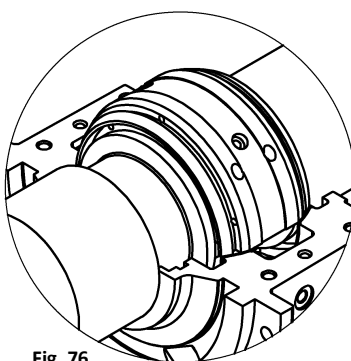
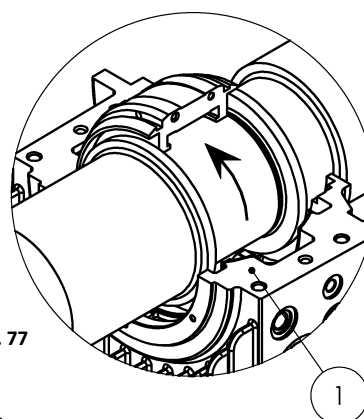

Fig. 76
Fig. 77
- Place the lower part of the bearing shell (86) on the shaft seat (Fig. 76) and turn it to the correct position (Fig. 77) in the lower part of the housing (1), taking care to ensure that the thrust bearing surfaces are not damaged when the shell is turned.